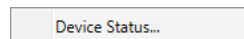

Figure 3-38 – C2C RWIS Context Menu
- **C2C RWIS Context Menu** (see Figure 3-38): This context menu provides the operator with options for RWIS devices available through the C2C interface.